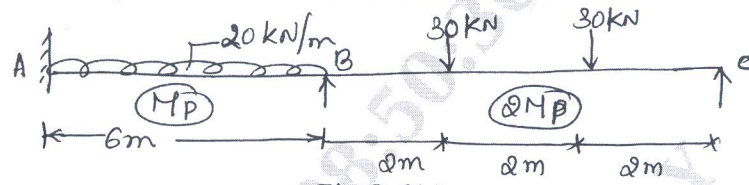

Fig.Q.6(a)
- 6 a. Analyze the continuous beam ABC subjected to working loads shown in Fig.Q.6(a) and determine the maximum plastic moment. Take load factor of 1.85. (08 Marks)